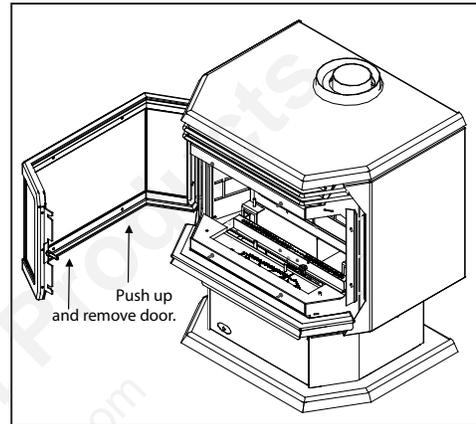

Figure 6: Removing the Door.
3. If the door must be removed open the door and lift the door pins out of the hinges (see Figure 6).
8. Reinstall the burner, brick panels, log set, embers, and glass door. Also refer to SECONDARY INSTALLATION - INSTALLING LOG SET AND EMBERS. When re-installing the burner, ensure that the burner to pilot hood relationship is similar to what is shown in Figure 6. On some units you will need to pay special attention when installing the burner that the venturi adjustment rod is properly installed into the venturi adjustment piece welded to the burner venturi tube